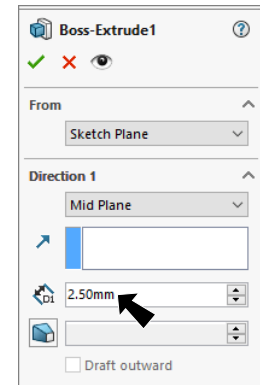

Fig. 11
Step 2. In the Boss-Extrude1 Property Manager set: under Direction 1, **Fig. 11**